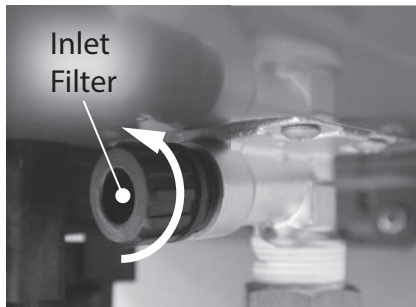

Figure 227 - Locate and remove inlet filter
- 8** Locate and remove the inlet filter as shown in Figure 227 to drain any residual water left in the system.